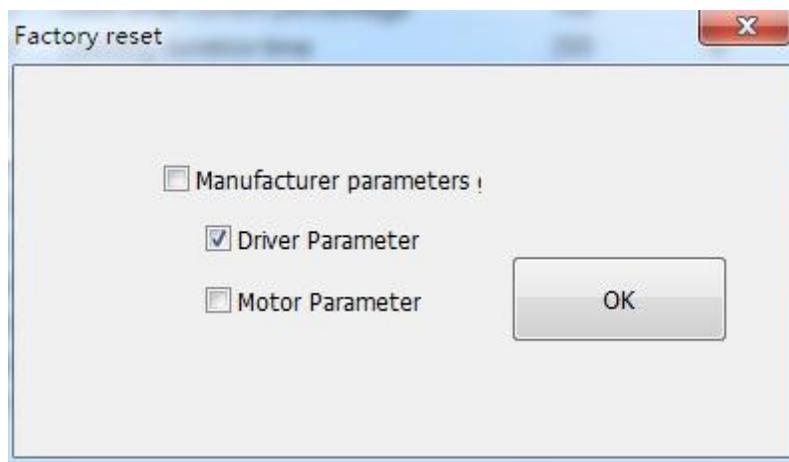

Figure 15: resetting confirmation message
- Click the icon in parameter manage window. The confirmation message will be popped up (Figure 15). Select “Driver Parameter” item, then click the “OK” button to continue resetting Process.